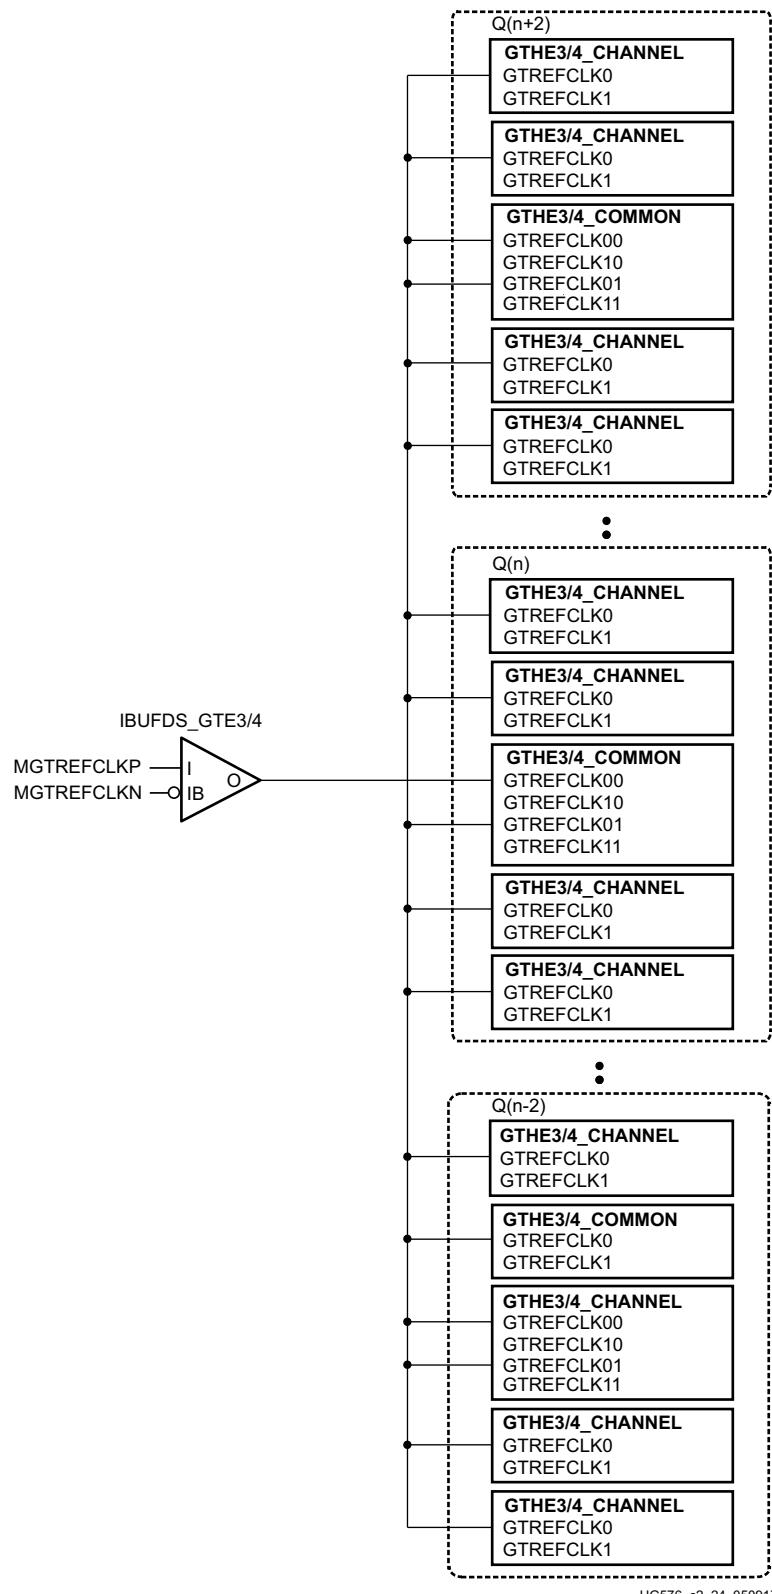

Figure 2-7: Single External Reference Clock with Multiple Transceivers in Multiple Quads
Figure 2-7 shows a single external reference clock with multiple transceivers connected to multiple Quads. The user design connects the IBUDFS_GTE3 output (O) to the GTREFCLK0 ports of the GTHE3/4_COMMON and GTHE3/4_CHANNEL primitives for the GTH transceiver. In this case, the Xilinx implementation tools make the necessary adjustments to the north/south routing as well as pin swapping necessary to route the reference clocks from one Quad to another when required.
Note: The IBUFDS_GTE3/4 diagram in Figure 2-7 is a simplification. The output port ODIV2 is left floating, and the input port CEB is set to logic 0.